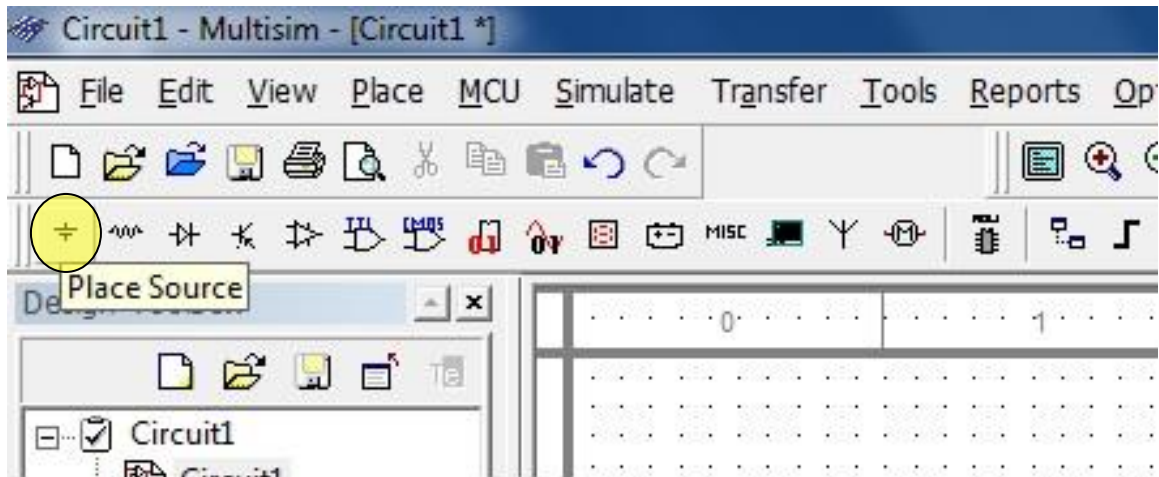

Figure 4.8: Place Source Button
- a. On the component toolbar (shown in figure 4.2), click on the first button, which is the source button, as shown in figure 4.8. When the arrow is above the first button, 'Place Source' will appear.